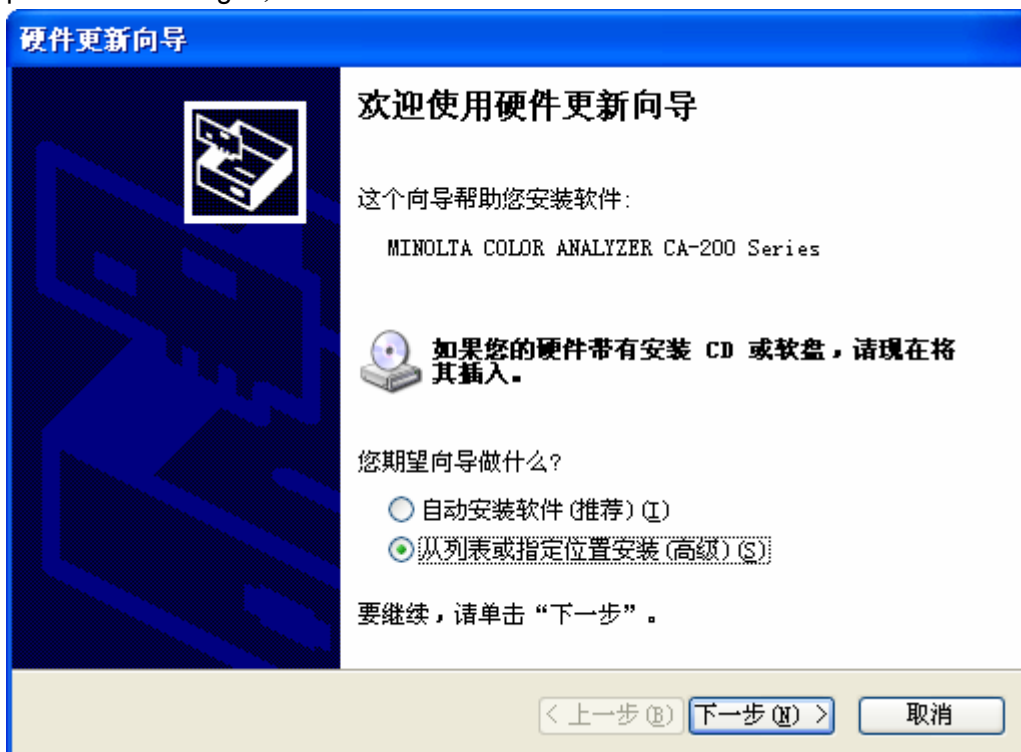

Fig.4
- a) Power on CA210, connect data line normally, a prompting dialog will display as Fig.4 for the first time of setup;
- b) Select item "**Setting from list or specified location (advanced)**", then press button "**Next**", please refer to Fig. 4;